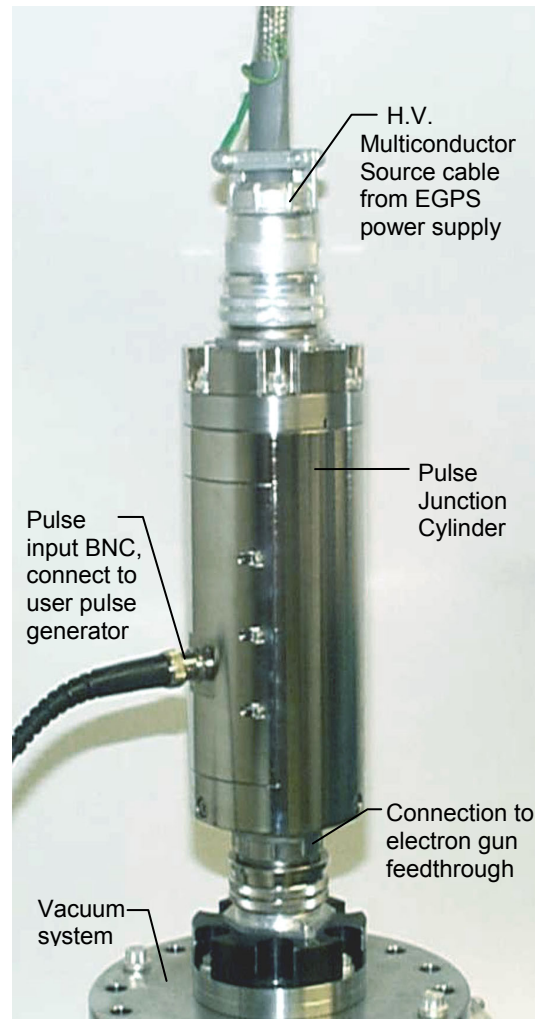

Fig. 4.8-2 Pulse Junction Cylinder, installed on a typical electron gun, showing connections
3. Install the Pulse Junction Cylinder on the 23/4 CF gun flange, as shown in Fig. 4.8-2. Observe the key when connecting the four pins. **CAUTION: Avoid tilting, twisting or excessive force**, otherwise the ceramic feedthroughs may be damaged.